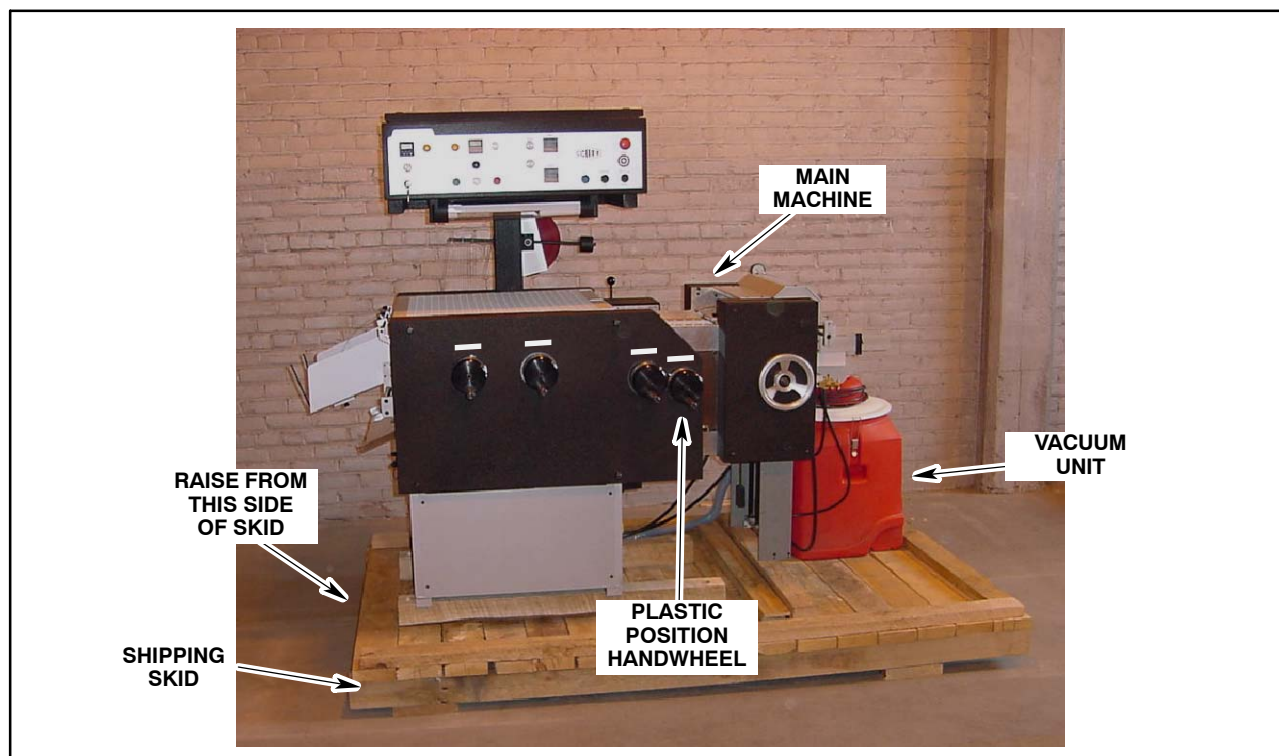

Fig. 2-3. Scotty 5000 on Shipping Skid
**Step: 11.** Crank the Plastic Position handwheel to release the vacuum canister hose. (See Fig. 2-3. for Plastic Position Handwheel location)